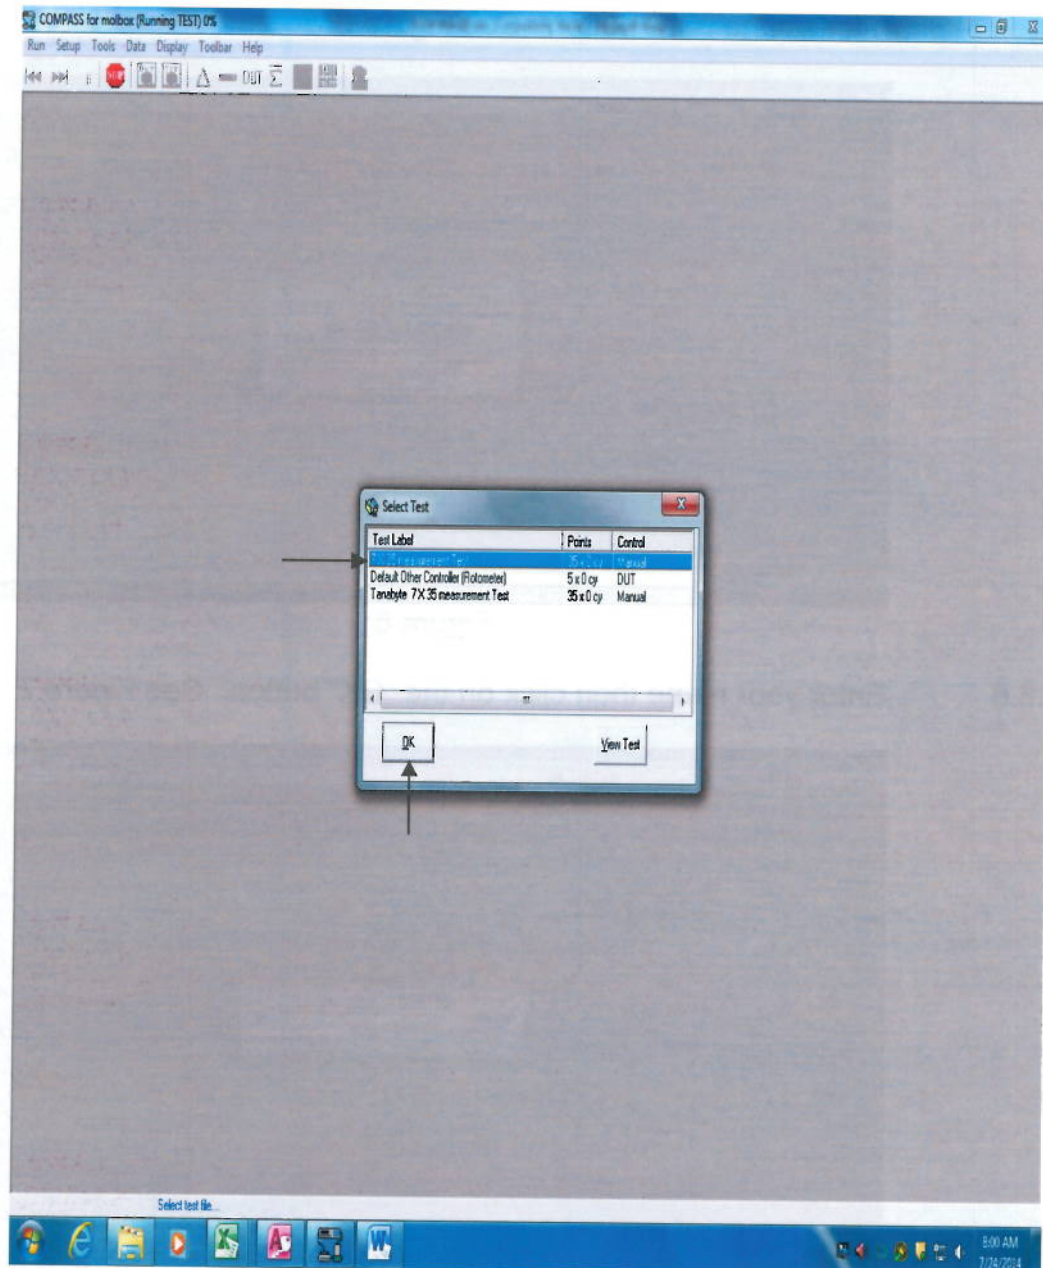

Figure 5
- 12.3.4 Under the “Test Label” column, highlight the “7 X 35 Measurement Test” then click on the “OK” button. See Figure 5.